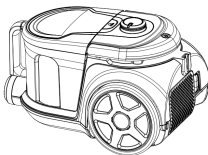

Fig.6
1. As in Fig.6, hold the dust chamber and handle and push the release button.